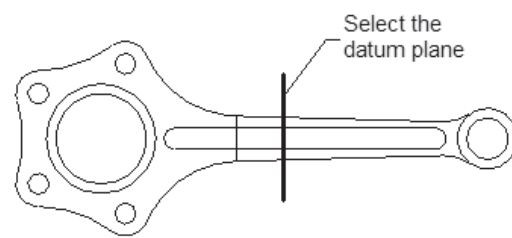

Figure 11-9 Revolved section view
6. Choose the **Apply** button and then choose the **Close** button to exit the **Drawing View** dialog box. The resulting sectioned view is shown in Figure 11-9.